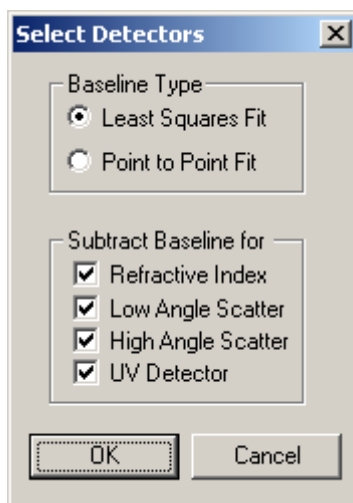

Figure 6-9: Select Detectors Dialog Box
- b) Right click on the chromatogram to present a pop-up selection box and select *Set Baseline* to present the *Select Detectors* dialog box (Figure 6-9).